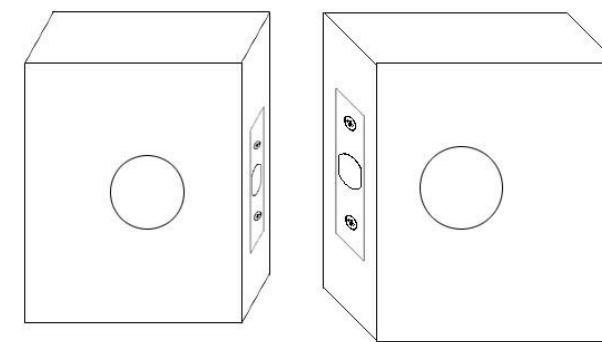

Figure 2
(2). Determine the deadbolt’s correct alignment/positioning based on the door’s opening direction (see **Figure 2 below**):